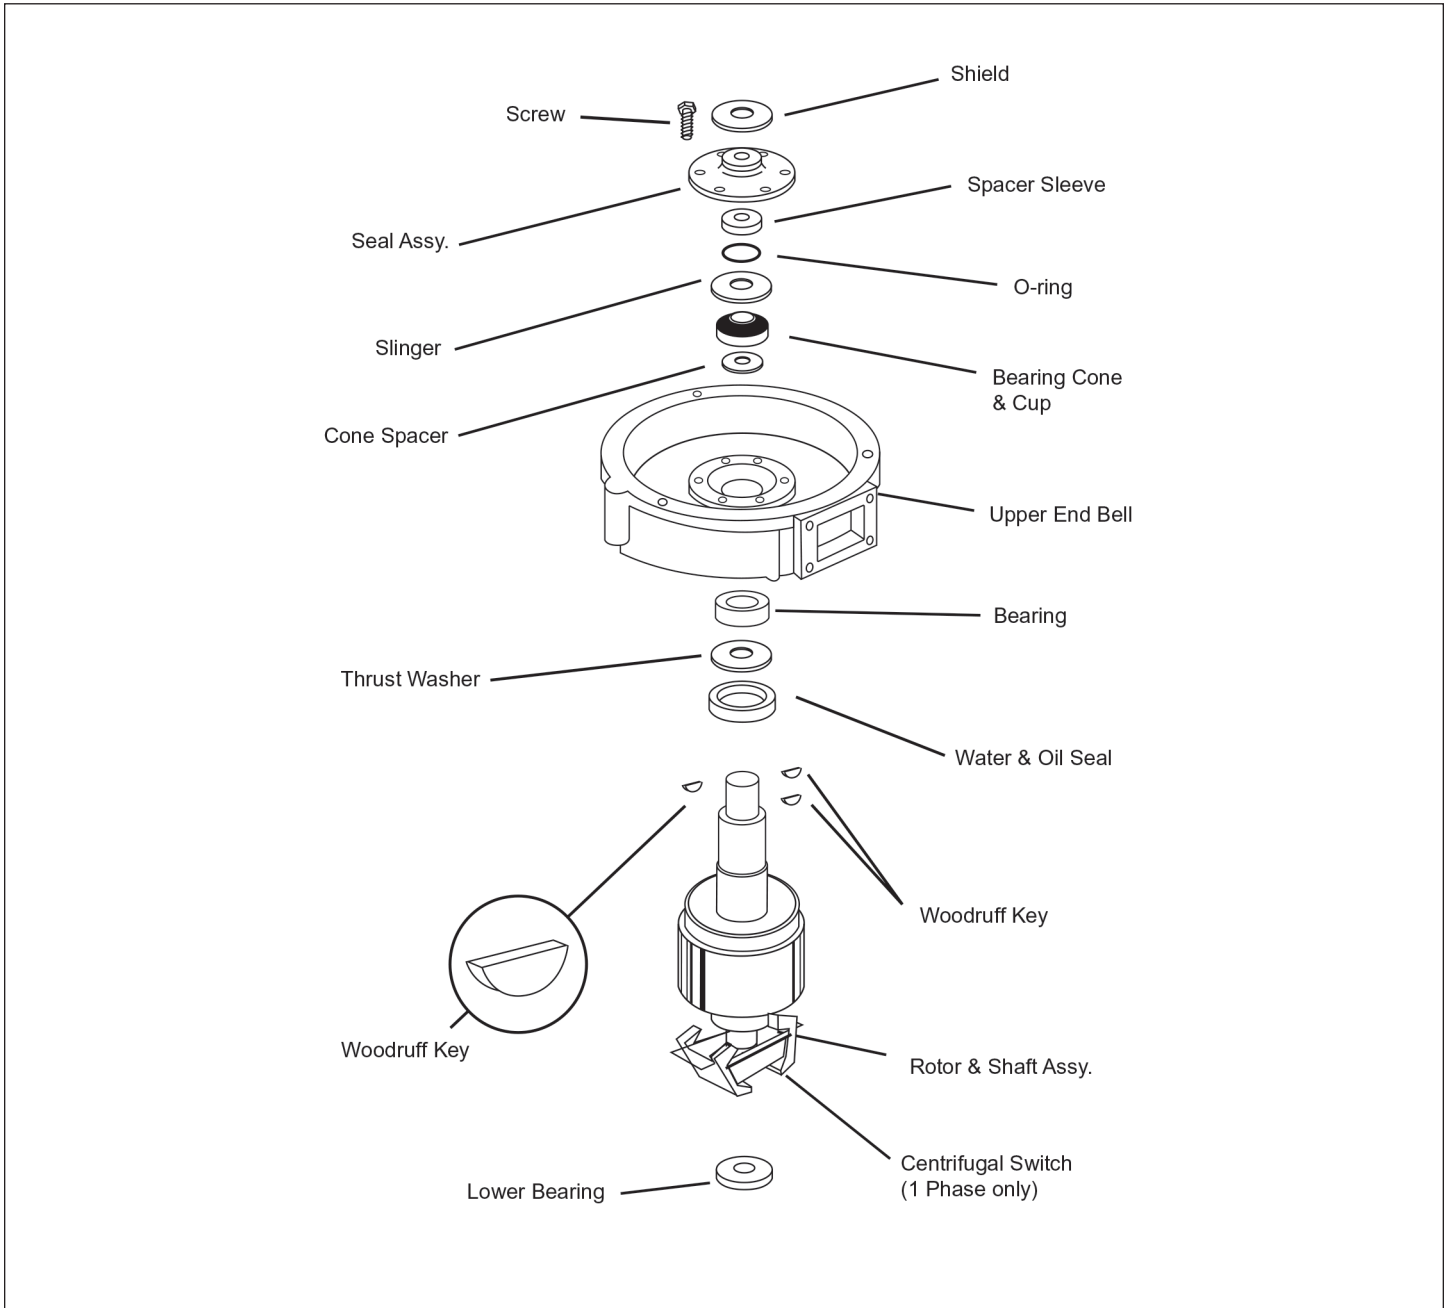

Figure 22. Upper End Bell and Rotor Assembly
7. Carefully remove rotor shaft from upper end bell (Figure 22).
18. Install spacer sleeve with channel fitting over O-ring, aligning sleeve notch with woodruff key (Figure 22).